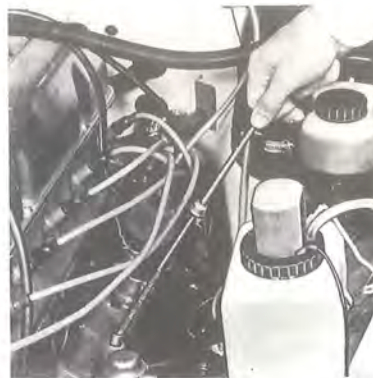

Fig. 1-15. Oil dipstick
1. Check to make sure that the oil level in the engine is between the "Max" and "Min" marks on the dipstick (see Fig. 1-15).